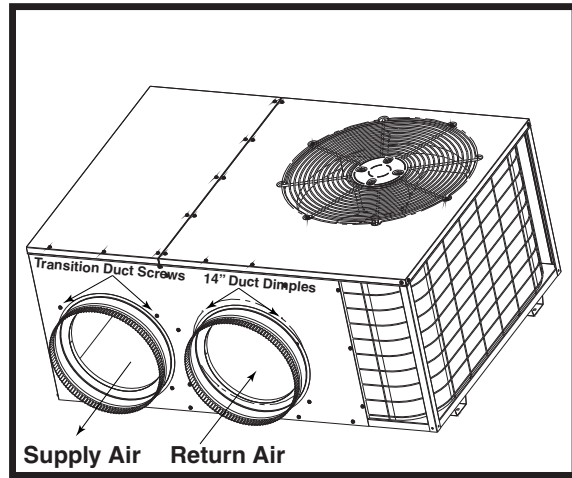

Figure 4. Return and Supply Air Fittings
- The supply duct system, including the number and type of registers, will have much more effect on the performance of the system than any other factor. The duct must be sufficiently large to conduct an adequate amount of air to each register. See Figure 4 (page 6).
The supply and return fittings are included with the unit and located in the supply duct. They attach to the unit openings (Figure 4) with a flange and bead arrangement and may be, secured with two sheet metal screws. **NOTE:** For easier access, install fittings before positioning unit in final location.